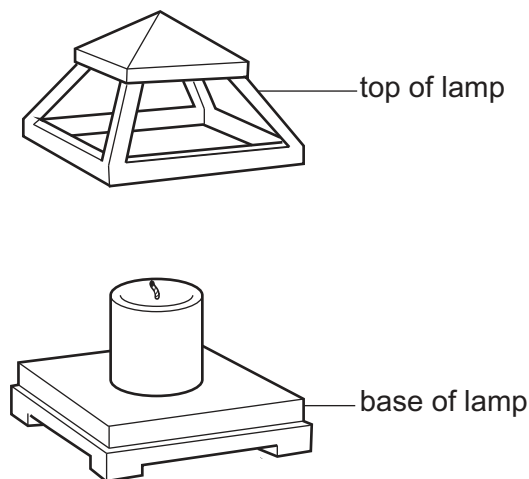

Fig. 9.1
- 9 Fig. 9.1 shows an incomplete design for a ceiling mounted candle lamp which is made from painted mild steel sheet.